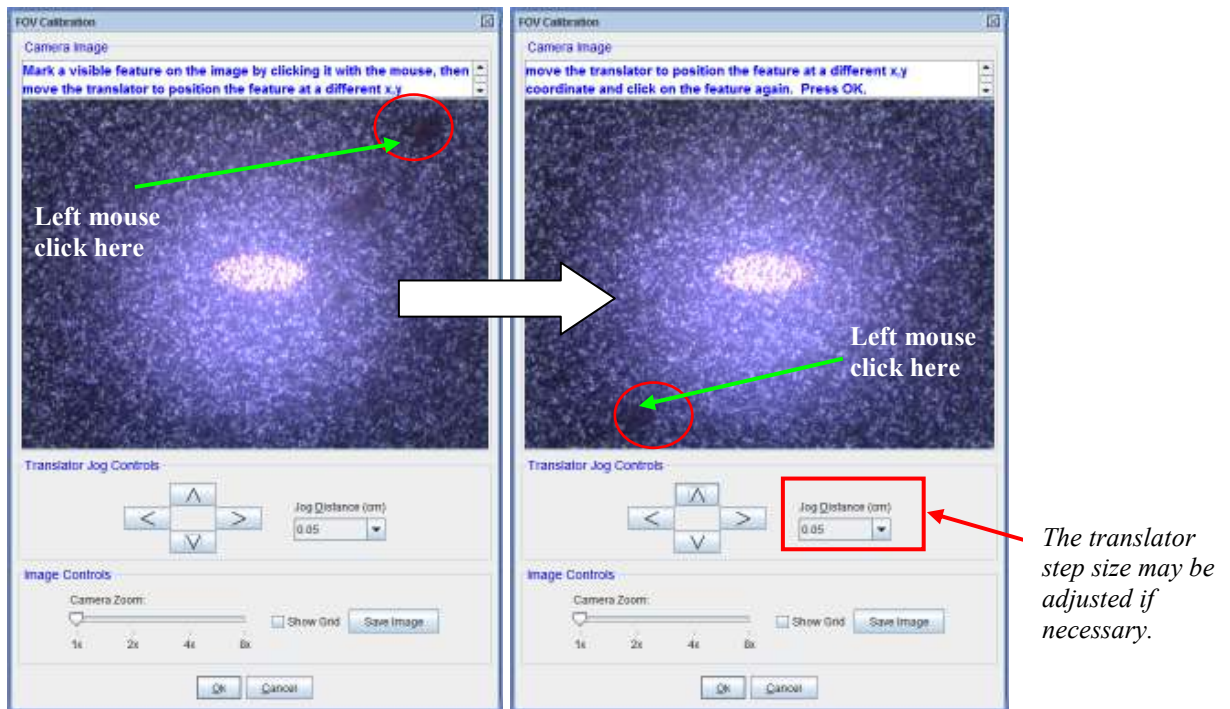

Figure 8-9. Field of View calibration procedure.
5. Follow the instructions at the top of the window: “Mark a visible feature on the image by clicking it with the mouse, then move the translator to position the feature at a different x,y coordinate and click on the feature again.” Use a fine tip marker to “create” a feature if necessary. (See Figure 8-9. Field of View calibration procedure.)